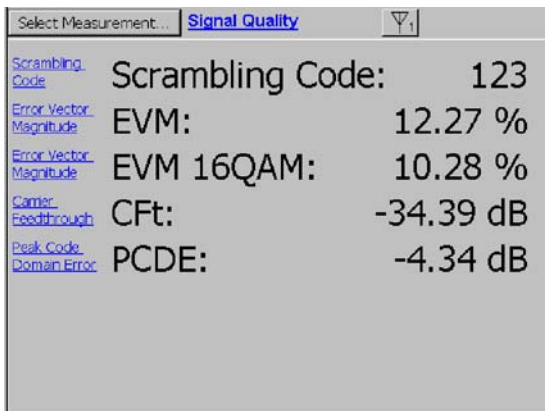

Figure 3-47: A W-CDMA Signal Quality display (option WD2)
3. Tap **Signal Quality**. See Figure 3-47.
The YBT250 displays an antenna button above the measurement display to indicate which antenna signal is the source for measurements. (see Figure 3-47.) Tap the button to open the **Edit > Meter** tab.